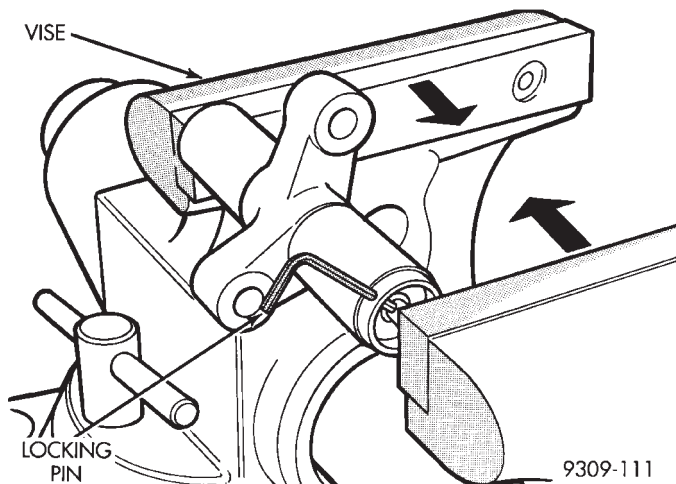

Fig. 50 Compressing Timing Belt Tensioner
(4) Slowly pre-load the tensioner with a vise and install locking pin (Fig. 50).